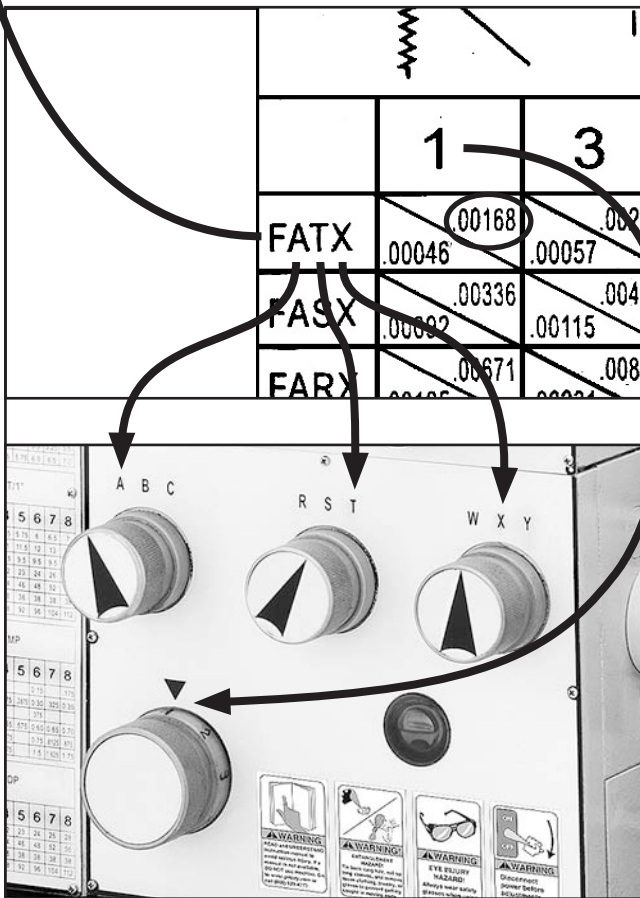

Figure 53. Feed control settings for a 0.00168" carriage feed rate.
6. Move the feed dials to the combination of **FATX1**, as shown in **Figure 53**.